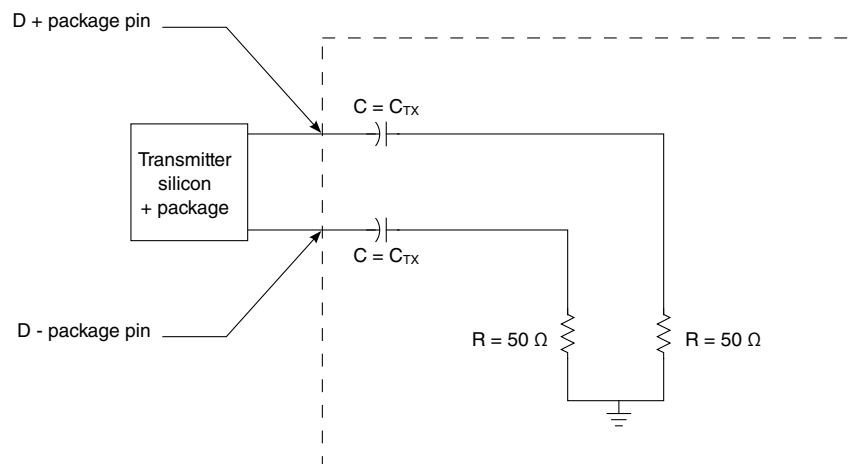

Figure 82. Test and measurement load
- Specified at the measurement point into a timing and voltage test load as shown in Figure 82 and measured over any 250 consecutive transmitter UIs.
- Specified at the measurement point and measured over any 250 consecutive UIs. The test load in Figure 82 must be used as the receiver device when taking measurements. If the clocks to the receiver and transmitter are not derived from the same reference clock, the transmitter UI recovered from 3500 consecutive UI must be used as a reference for the eye diagram.